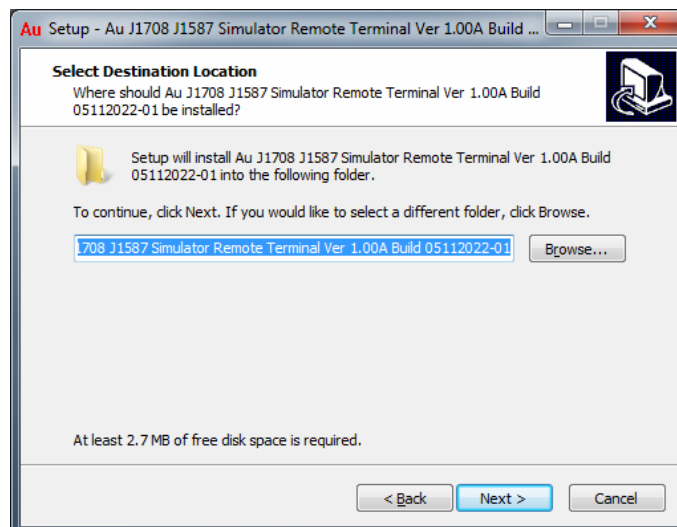

Figure 6-3
3. A “Select Destination Location” window will pop up. Use the default folder, and click “Next” to continue (Figure 6-3).